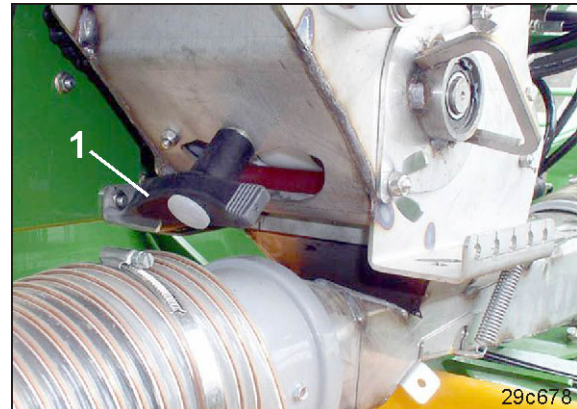

Fig. 194
- 2.1 Turn the handle (Fig. 194/1).
9. Close the residue emptying flap(s) (Fig. 194/1).